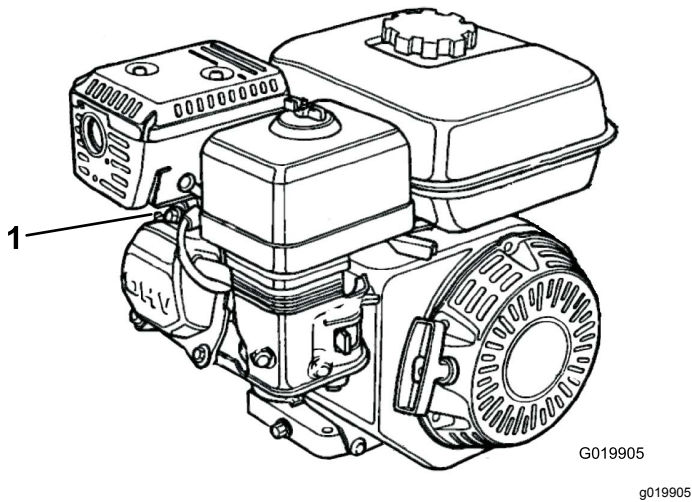

Figure 32
1. Disconnect the spark-plug wire from the spark plug (Figure 32).